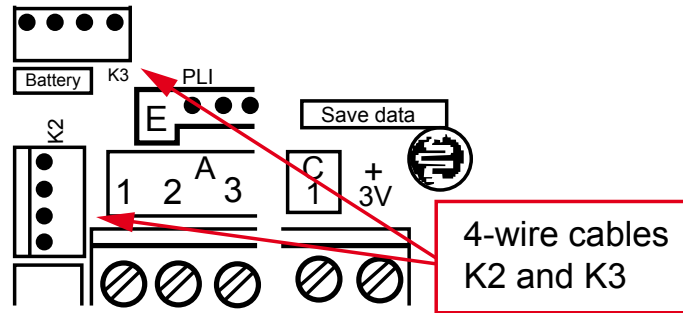

Fig. 1, Connection terminal F4
3. Cut the power by disconnecting the four-pole connectors K2 and K3, cf. Fig.1.